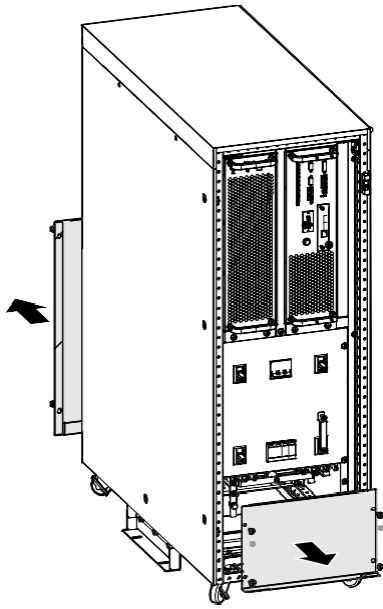

Figure3-28 Remove the cover plate of wiring
Step 1 Open the front door of the UPS, remove the front and rear wiring cover plate, as shown in Figure3-28.